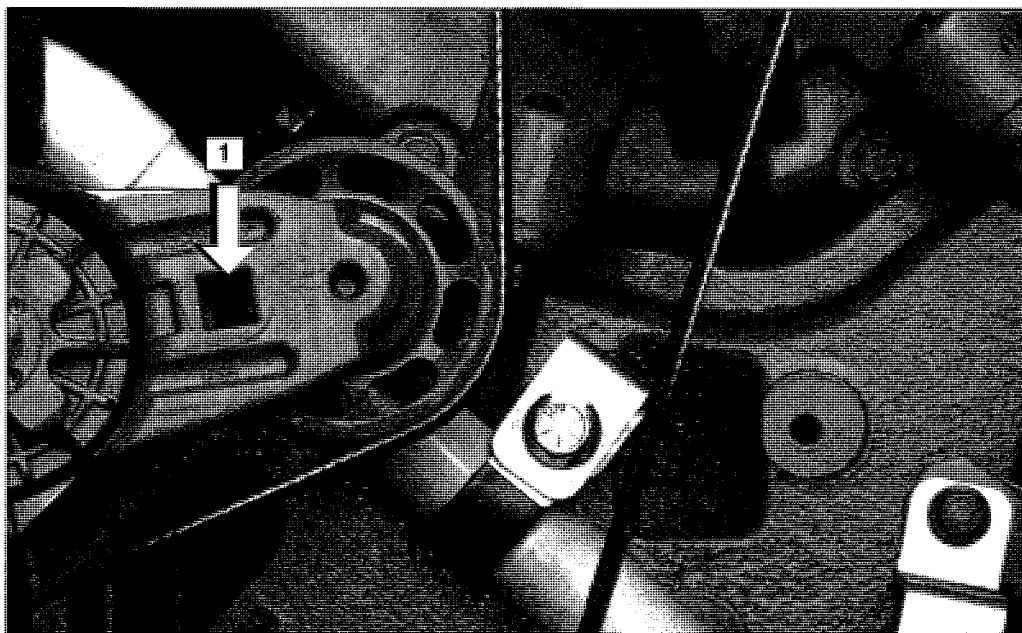

Figure 2. Reference photo of D coach installation.
7. Open the engine door(s). Locate the engine belt tension clutch (refer to Figures 2 and 3).